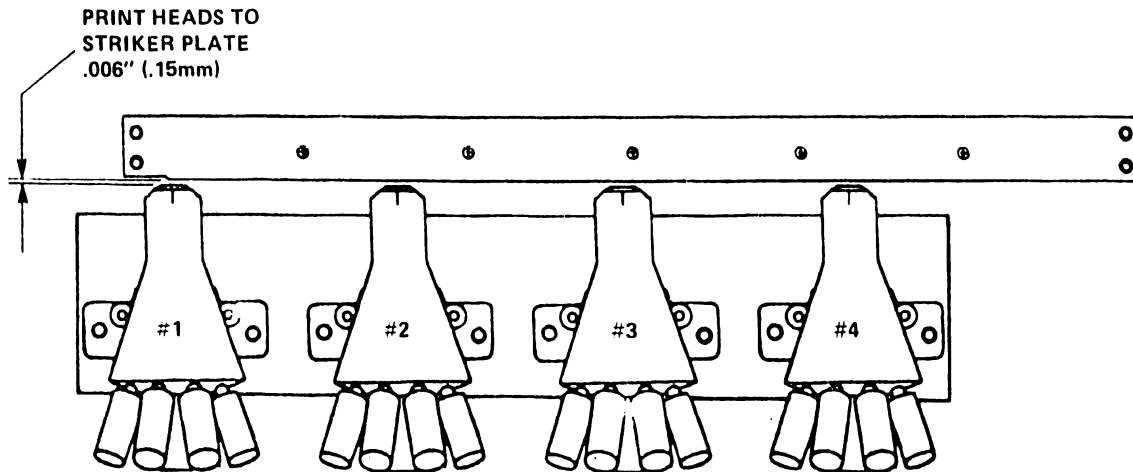

Figure 5-30. Print Intensity Adjustment
4. Measure the gap from the #2 print head bearing to the striker plate; it should be .006" (.15 mm). In turn, check the other three print heads for the same gap. See Figure 5-30.